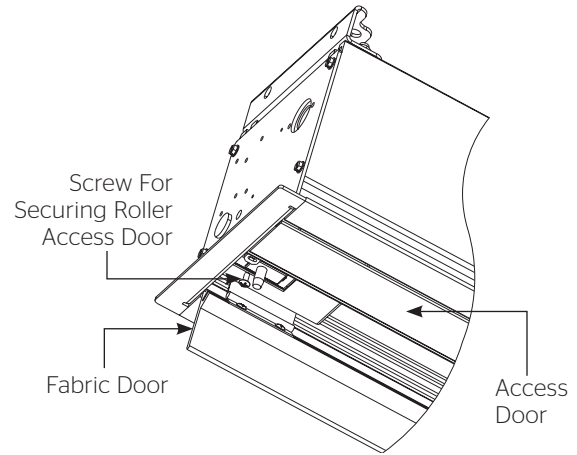

Figure 1
1. Remove the screw from each end of the access door (front door) and open the door. See figure 1.